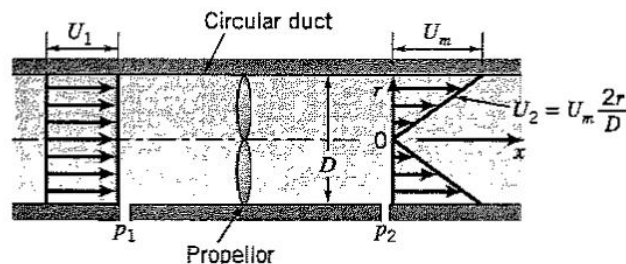

Figure P3.36
3.36 A propeller is placed in a constant area circular duct of diameter D , as shown in Figure P3.36. The flow is steady and has a constant density ρ . The pressures p_1 and p_2 are uniform across the entry and exit areas, and the velocity profiles are as shown.